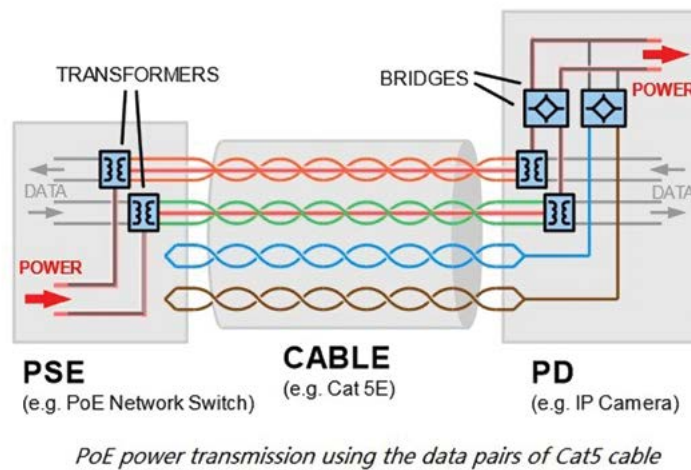

Figure 4. PoE general layout.
Power over Ethernet (PoE) is an Ethernet-compatible technology created to enable Voice over IP (VoIP) telephony. DC power, at a nominal voltage of 48 VDC, is carried on one or more pairs in the Ethernet cable along with the transmitted signal. PoE-powered devices (PD) negotiate with the power source (e.g., PSE, typically a network switch) to ensure appropriate power is delivered. Businesses soon realized the potential of network supplied power. PoE now powers IP cameras, wireless access points, badge readers and access gateways, and office lighting (Figure 4).